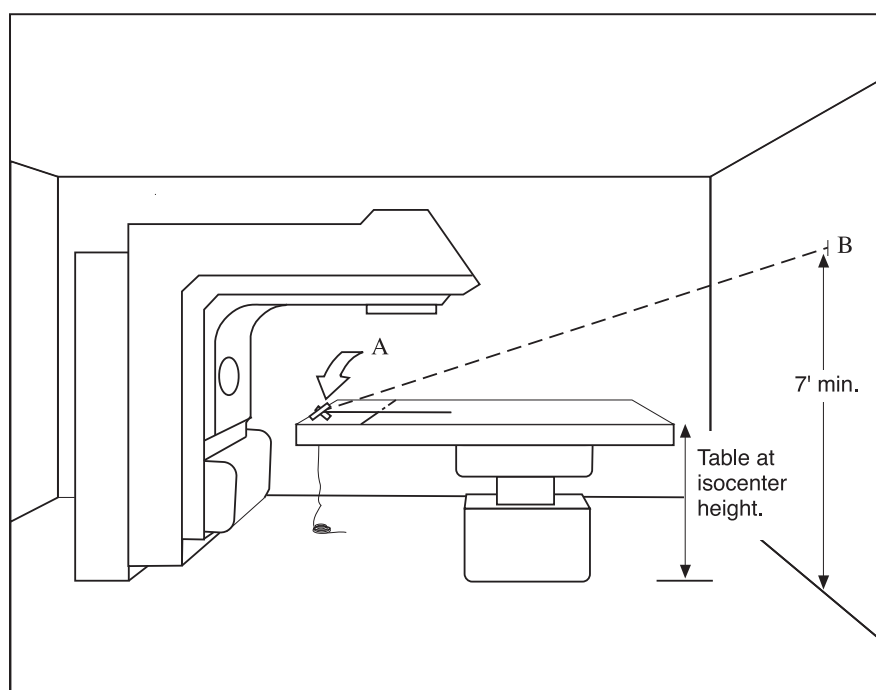

Figure 9
The Sagittal Optical Aligner is mounted high on the wall. See Figure 9 room layout. The minimum install height is 7', or higher.
2. Use the crosshair from the ceiling optical aligner as a reference and tape a plumb bob string to the center of the table so that the string line aligns with the crosshair. Point A in Figure 9.
4. The point at which the string hits the wall indicates the center of the vertical optical aligner exit reference point. Point B in Figure 9.